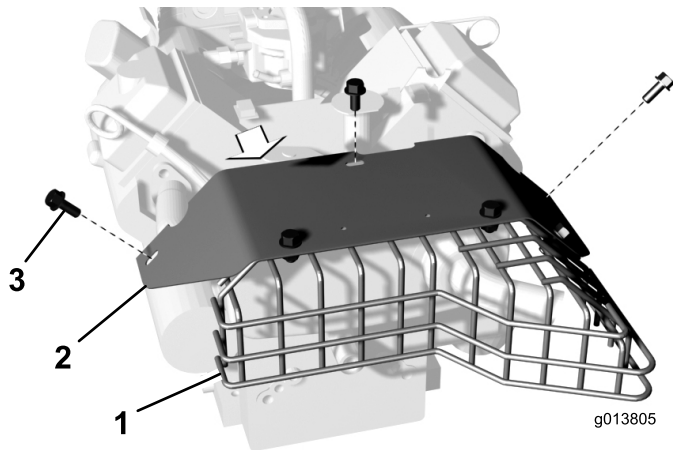

Figure 4
1. Mounting bolt, washer & flange nut (4)
7. Remove the (3) flange head screws securing the muffler shield to the engine (Figure 4). Remove the muffler shield and exhaust shield. Reinstall the flange head screws to the engine.